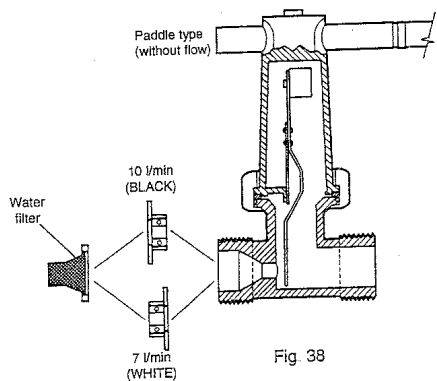

Fig 38
- Re-assemble in reverse order, ensuring that the filter, flow restrictor and sealing washers are in the correct position (fig. 38). The polarity for the electrical wiring is immaterial